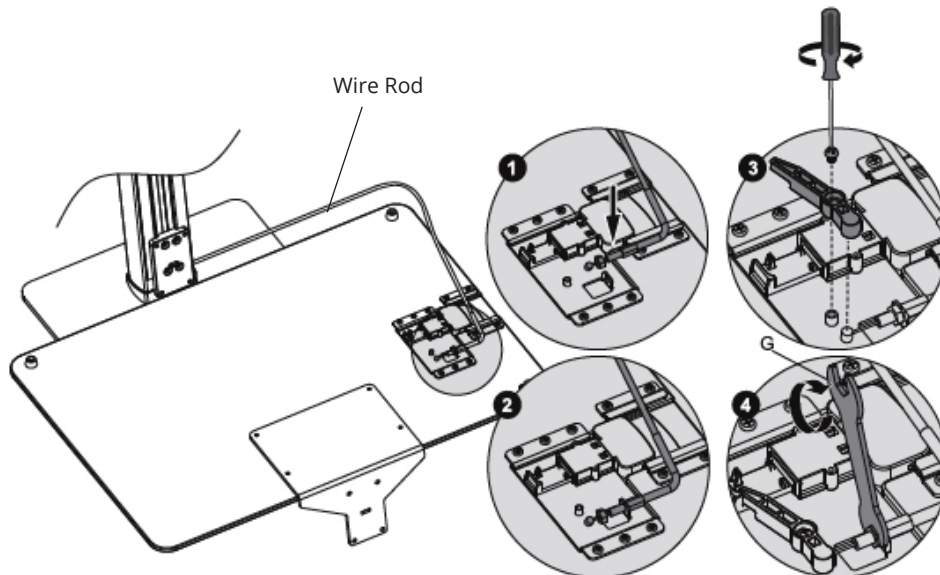

Figure 2B
2. Find the Support Pole's Wire Rod and attach it to the Keyboard Tray, see Figure 2B-1 & 2B-2.
3. Re-install the bracket onto the Keyboard Tray, see Figure 2B-3.
4. Adjust the nut using Wrench (G), see Figure 2B-4.